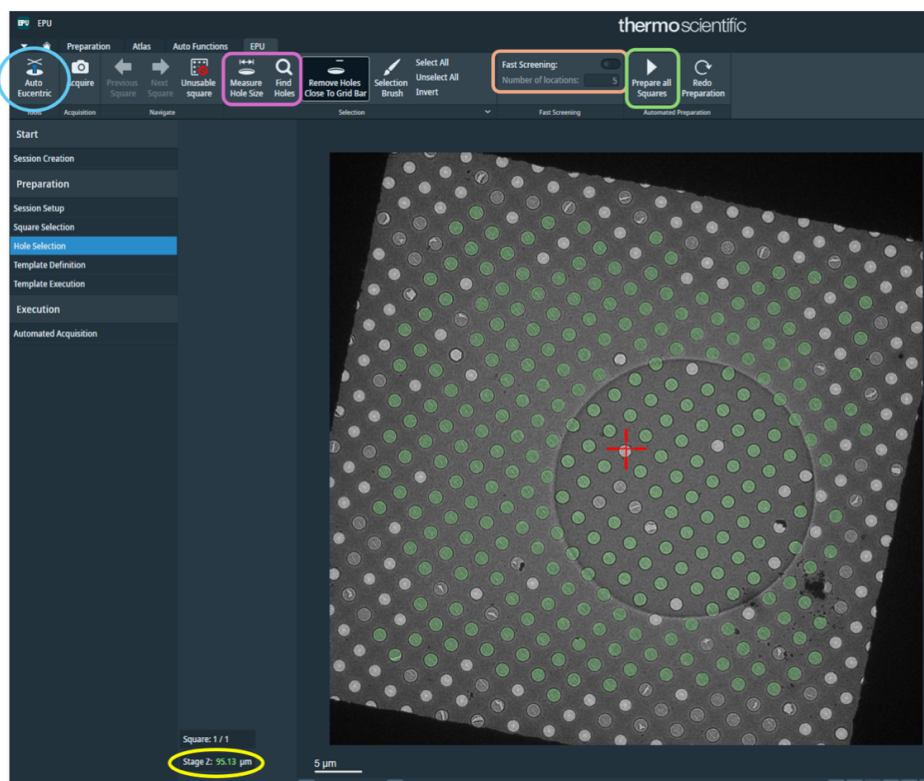

Figure 12. The options available in the Hole Selection tab
- 4.12.5.1. Move to the hole selection tab (Figure 12). Go to square 1/x using the *Navigate* buttons.
- 4.12.5.2. Press *Auto-Eucentric* to find eucentric height (Figure 12, blue circle). The microscope will automatically acquire an image of the square.
- 4.12.5.3. Press *Measure hole size* to find the holes using the yellow circles, then press *find holes* (Figure 12, pink square). Check the circles are over the holes and if not, take time to get this as accurate as possible.
- 4.12.5.7. Use *Fast Screening* to randomly pick a subset of the holes for screening (Figure 12, orange square).
- 4.12.5.9. You only need to manually prepare one square. For the remaining squares, use *Prepare All Squares* (Figure 12, green square).
- 4.12.5.11. Check through all squares to make sure you are happy with the automated hole selection and that each square has a Z height shown in green text (Figure 12, yellow circle).